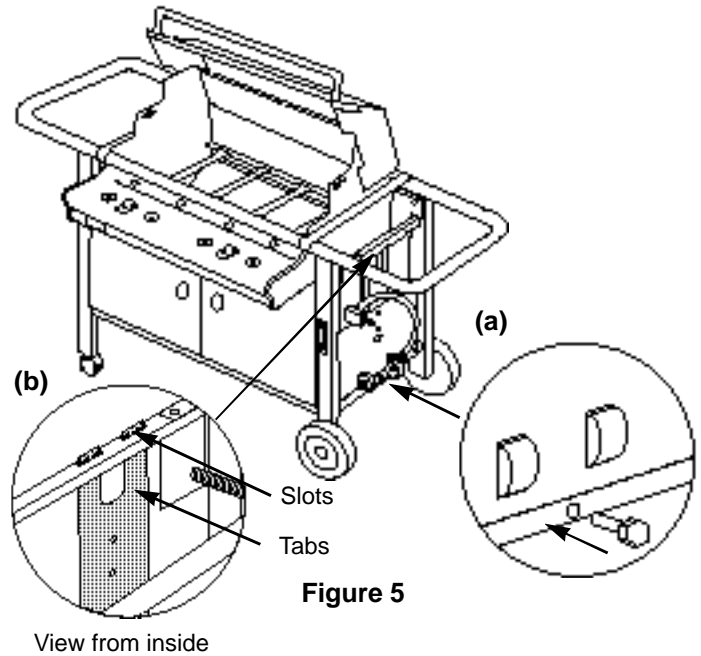

Figure 5
Reinstall the bottom bolt through the right panel and the tank panel. Add the keps nut and tighten. Either open the right door or reach underneath the cart to install the keps nut. Figure 5 (a).
**CAUTION: Make sure the tabs of the tank panel are in the slots of the top support. Figure 5 (b).**